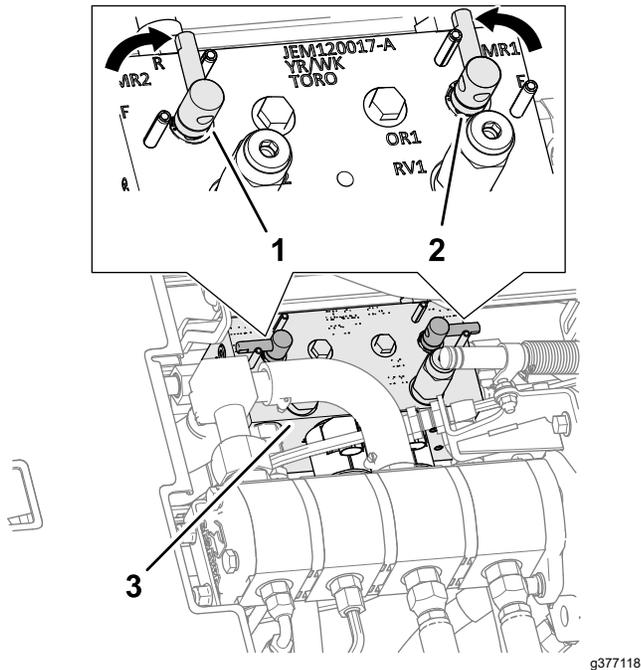

Figure 117
4. Unlock and raise the seat to expose the mower manifold (**Figure 117**).
5. Move the backlap levers to the R (backlap) position (**Figure 117**).